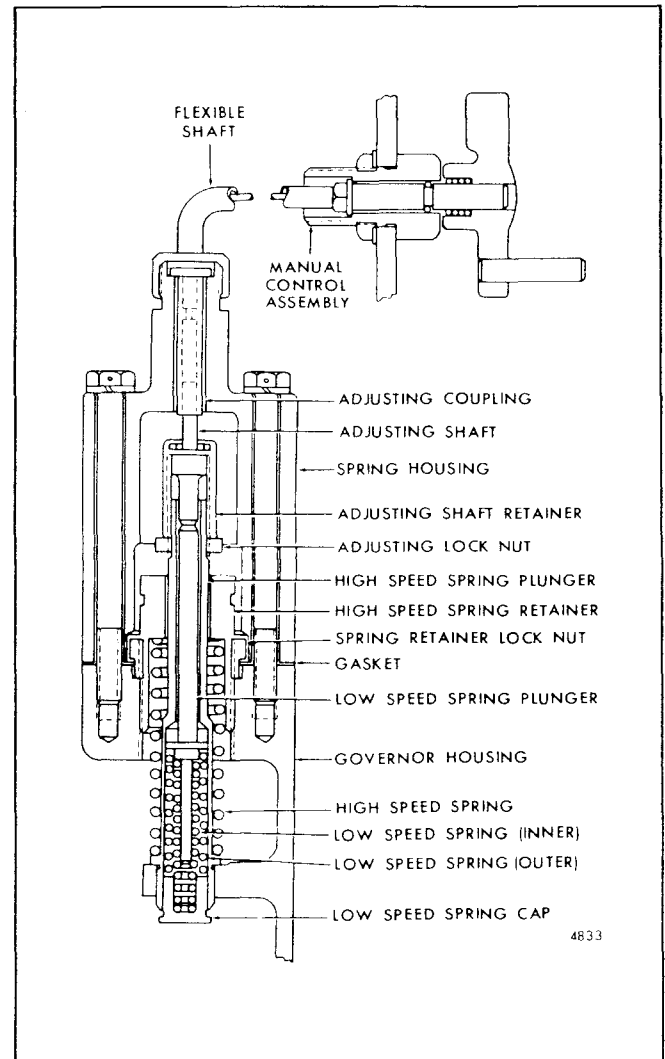

Fig. 1 - Governor Spring Housing and Components
- a. Back out the variable low-speed adjusting shaft until the shoulder on the shaft contacts the shaft retainer (Fig. 1).